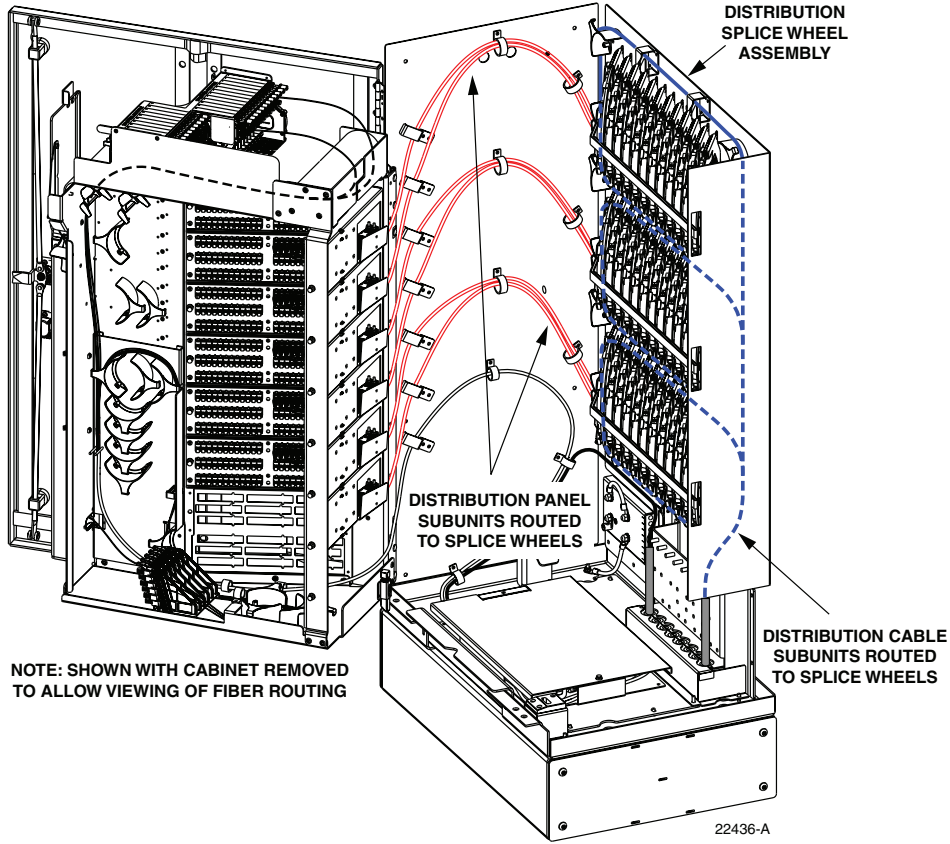

Figure 33. Distribution Splice Wheels and Distribution Panel Subunit Routing
1. Identify and locate the distribution panel subunits that are routed from the back of each panel to the splice wheels as shown in Figure 33.